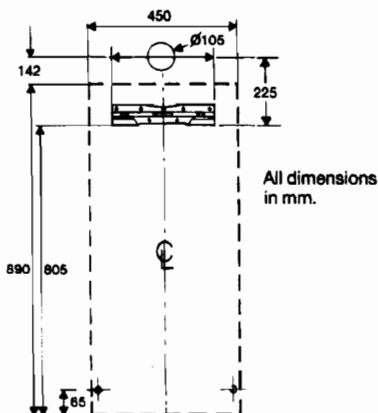

Fig. 13
5.4 Mounting the Appliance (Fig 13)
Alternatively, position bracket and holes to dimensions in fig 13.
Refer to fig 13 and figs 14-18 for relevant dimensions for locating the hole. Where it is remote from the boiler take special care to ensure hole is at the correct level so that the finished flue is horizontal.
- 5.5.19** When the flue and appliance are finally positioned screw the lower frame to the wall (fig 13)